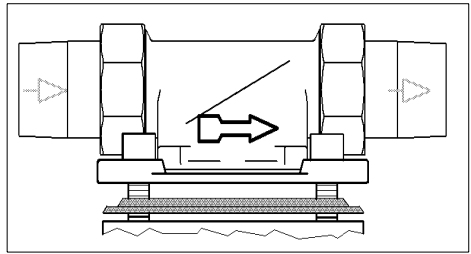

Fig. 1: Built-in rotary flange
- Flow direction (see fig.1)
The built-in rotary flange has to be mounted in flow direction. This one is marked by a cast in arrow under the casing (see fig.1).